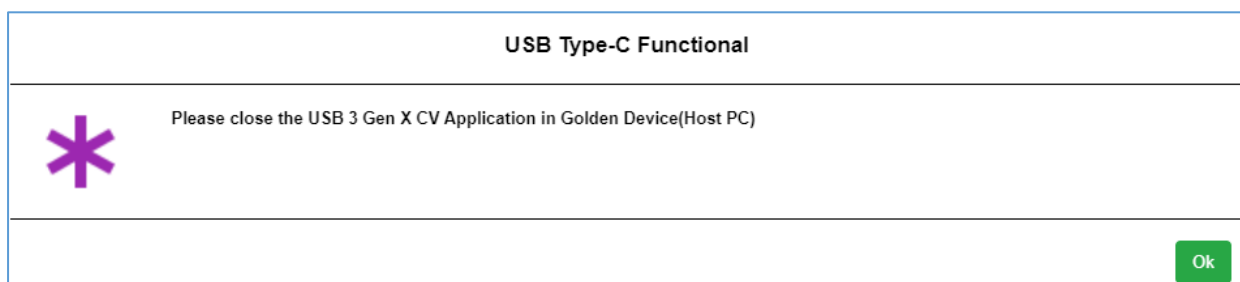

FIGURE 7.22: USER PROMPT TO CLOSE USB 3 GEN X CV APP IN GOLDEN DEVICE
15. The following pop-up message (Figure 7.22 below) will then appear to ask the user to close the USB 3 Gen X CV application in the golden device.